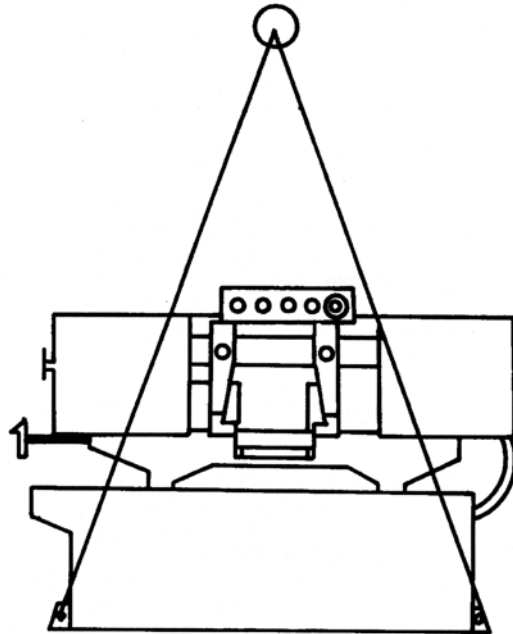

Figure 1
1. Using lifting straps that are isolated from the band saw's finished surfaces, lift machine and place in desired location. See Figure 1 for strap placement.
2. Install four leveling bolts with lock nuts on both sides of the base as shown in the parts breakdown on page 16, items 2 and 3.